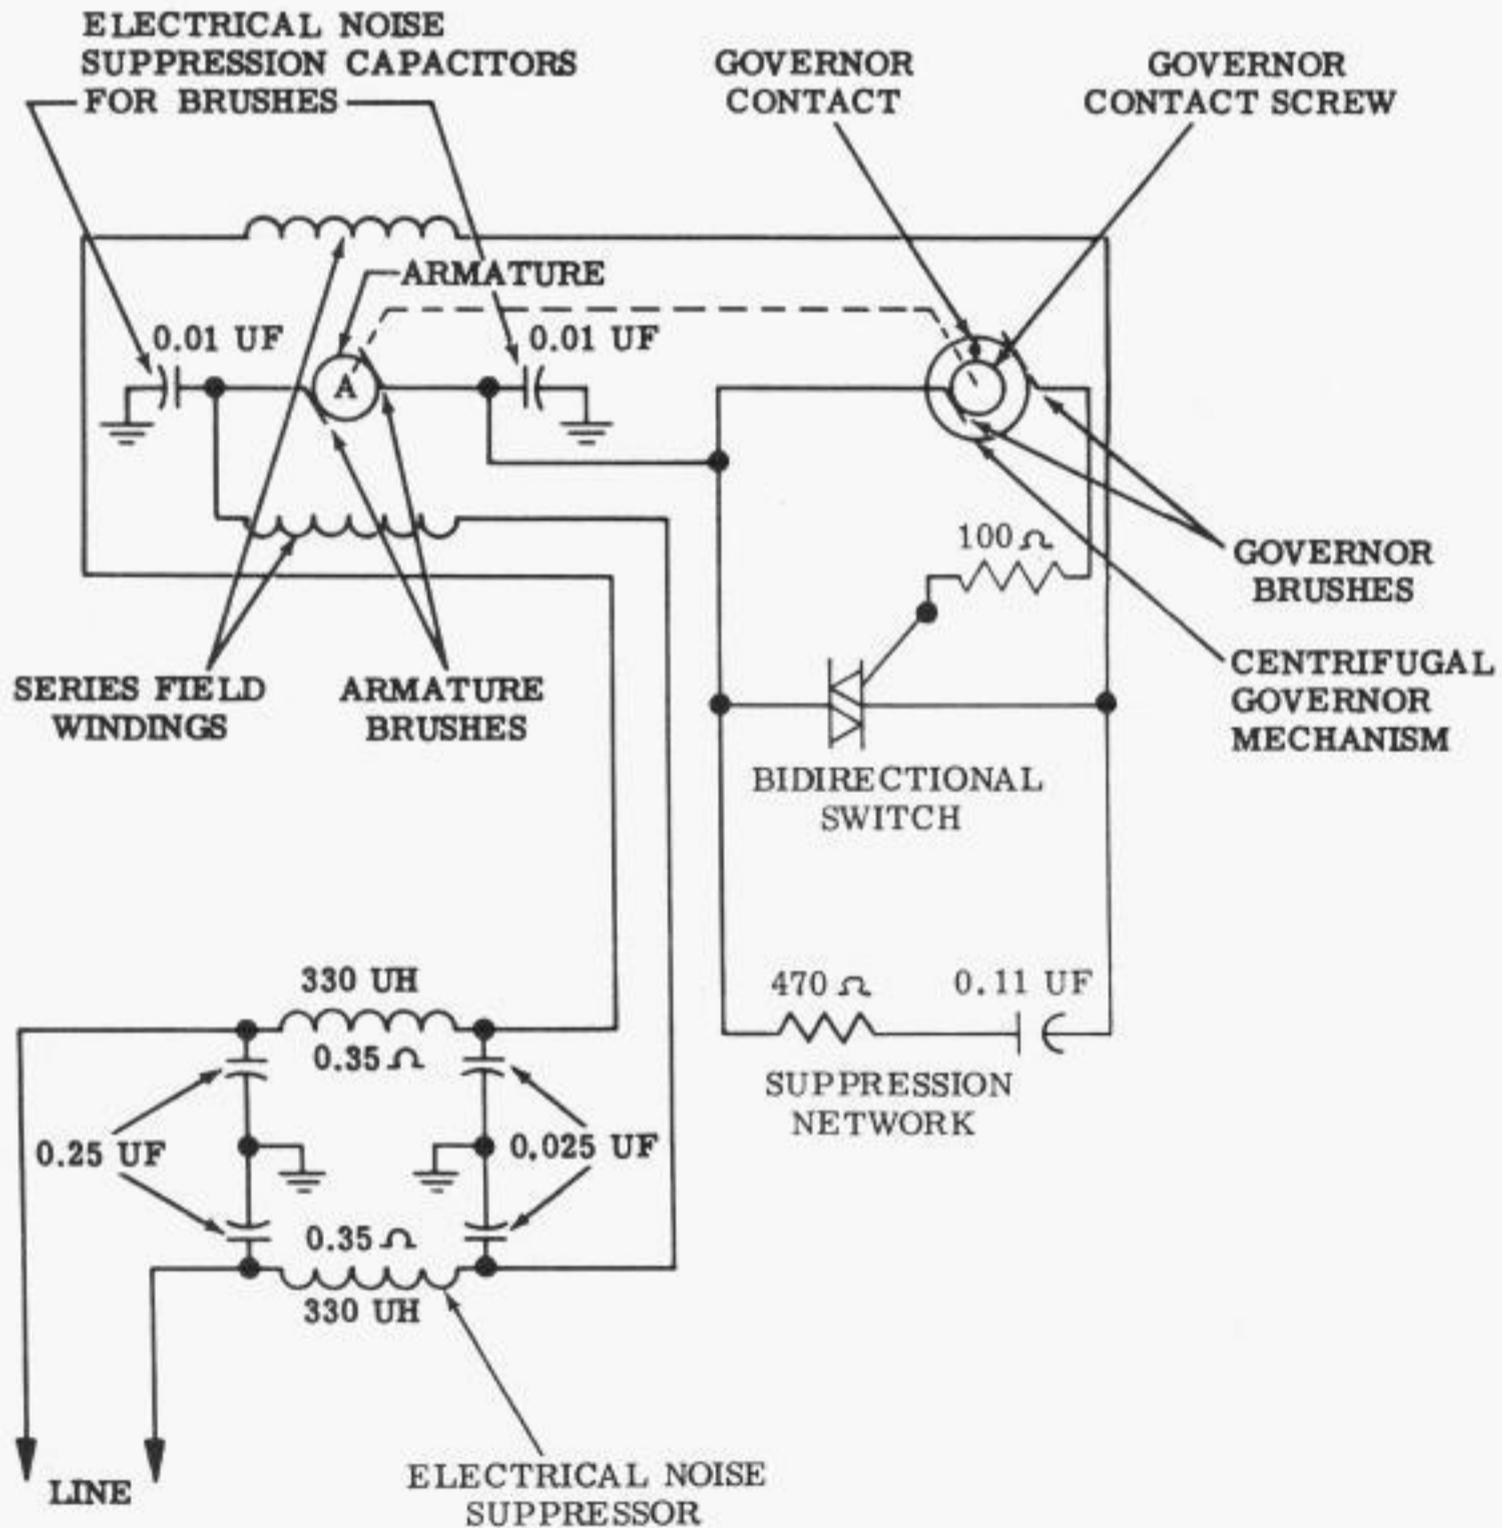

Figure 8 - Typical AC Only Governed Motor Unit Schematic Diagram With Bidirectional Switch
3.10 The following description of operation is applicable to ac series governed motor units furnished with a bidirectional switch (Figure 8).